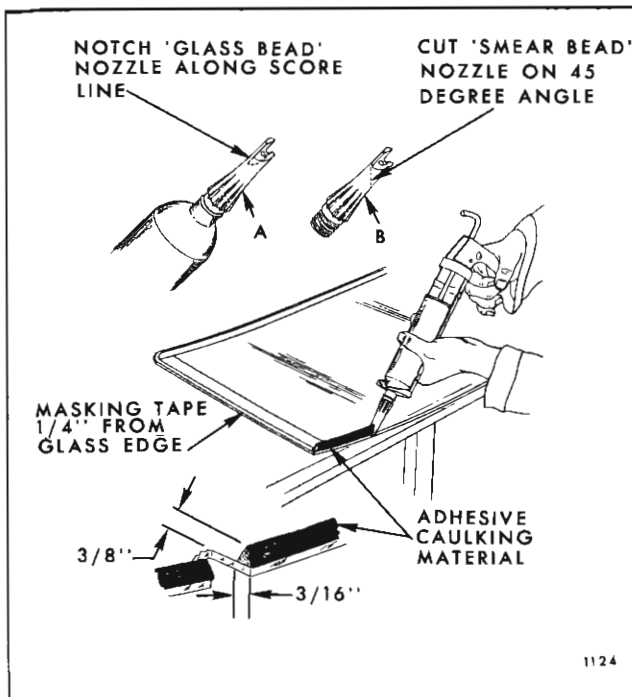

Fig. 2C11—Adhesive Caulking Material Application - Extended Method
15. Positioning the gun and nozzle as shown in Figure 2C11, carefully apply a smooth continuous bead of caulking material $3/8''$ high by $3/16''$ wide at base completely around inside edge of glass. When material in first tube is dispensed, quickly insert second tube and continue application of bead. After application, check bead and fill all voids and air bubbles.
17. With aid of helper, lift glass with one hand on outside of glass and one hand on inside of glass. Carefully move glass up to windshield opening, maintaining glass in a horizontal position. While one man holds glass in this position, the second man can reach around the windshield pillar and hold glass; then, first man can reach around windshield pillar (Fig. 2C7). Carefully position glass to plane of opening, making certain that glass is properly centered and positioned to opening and resting on
lower spacers. Use tape on glass and windshield pillars as a guide. (Fig. 2C9).